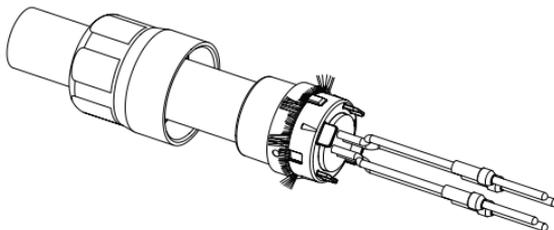

Figure XI-14
6. Place the shielding element on the seal. The shielding braid must lie between the seal and the shielding element. It must never get between the seal and the cable (Figure XI-14).